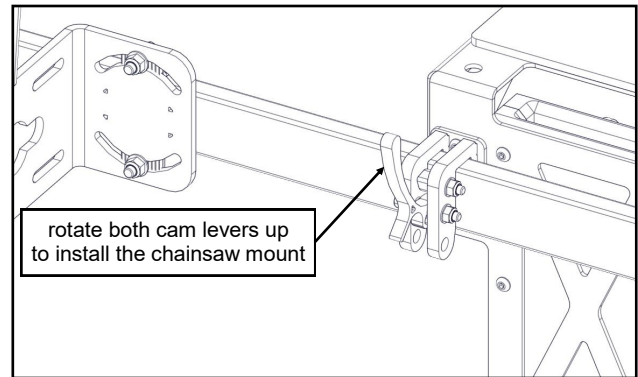

Fig. 2 (cam lever in the open position)
2. To install the chainsaw mount, rotate both cam levers UP, then place onto the Tool Bar. See fig. 2.